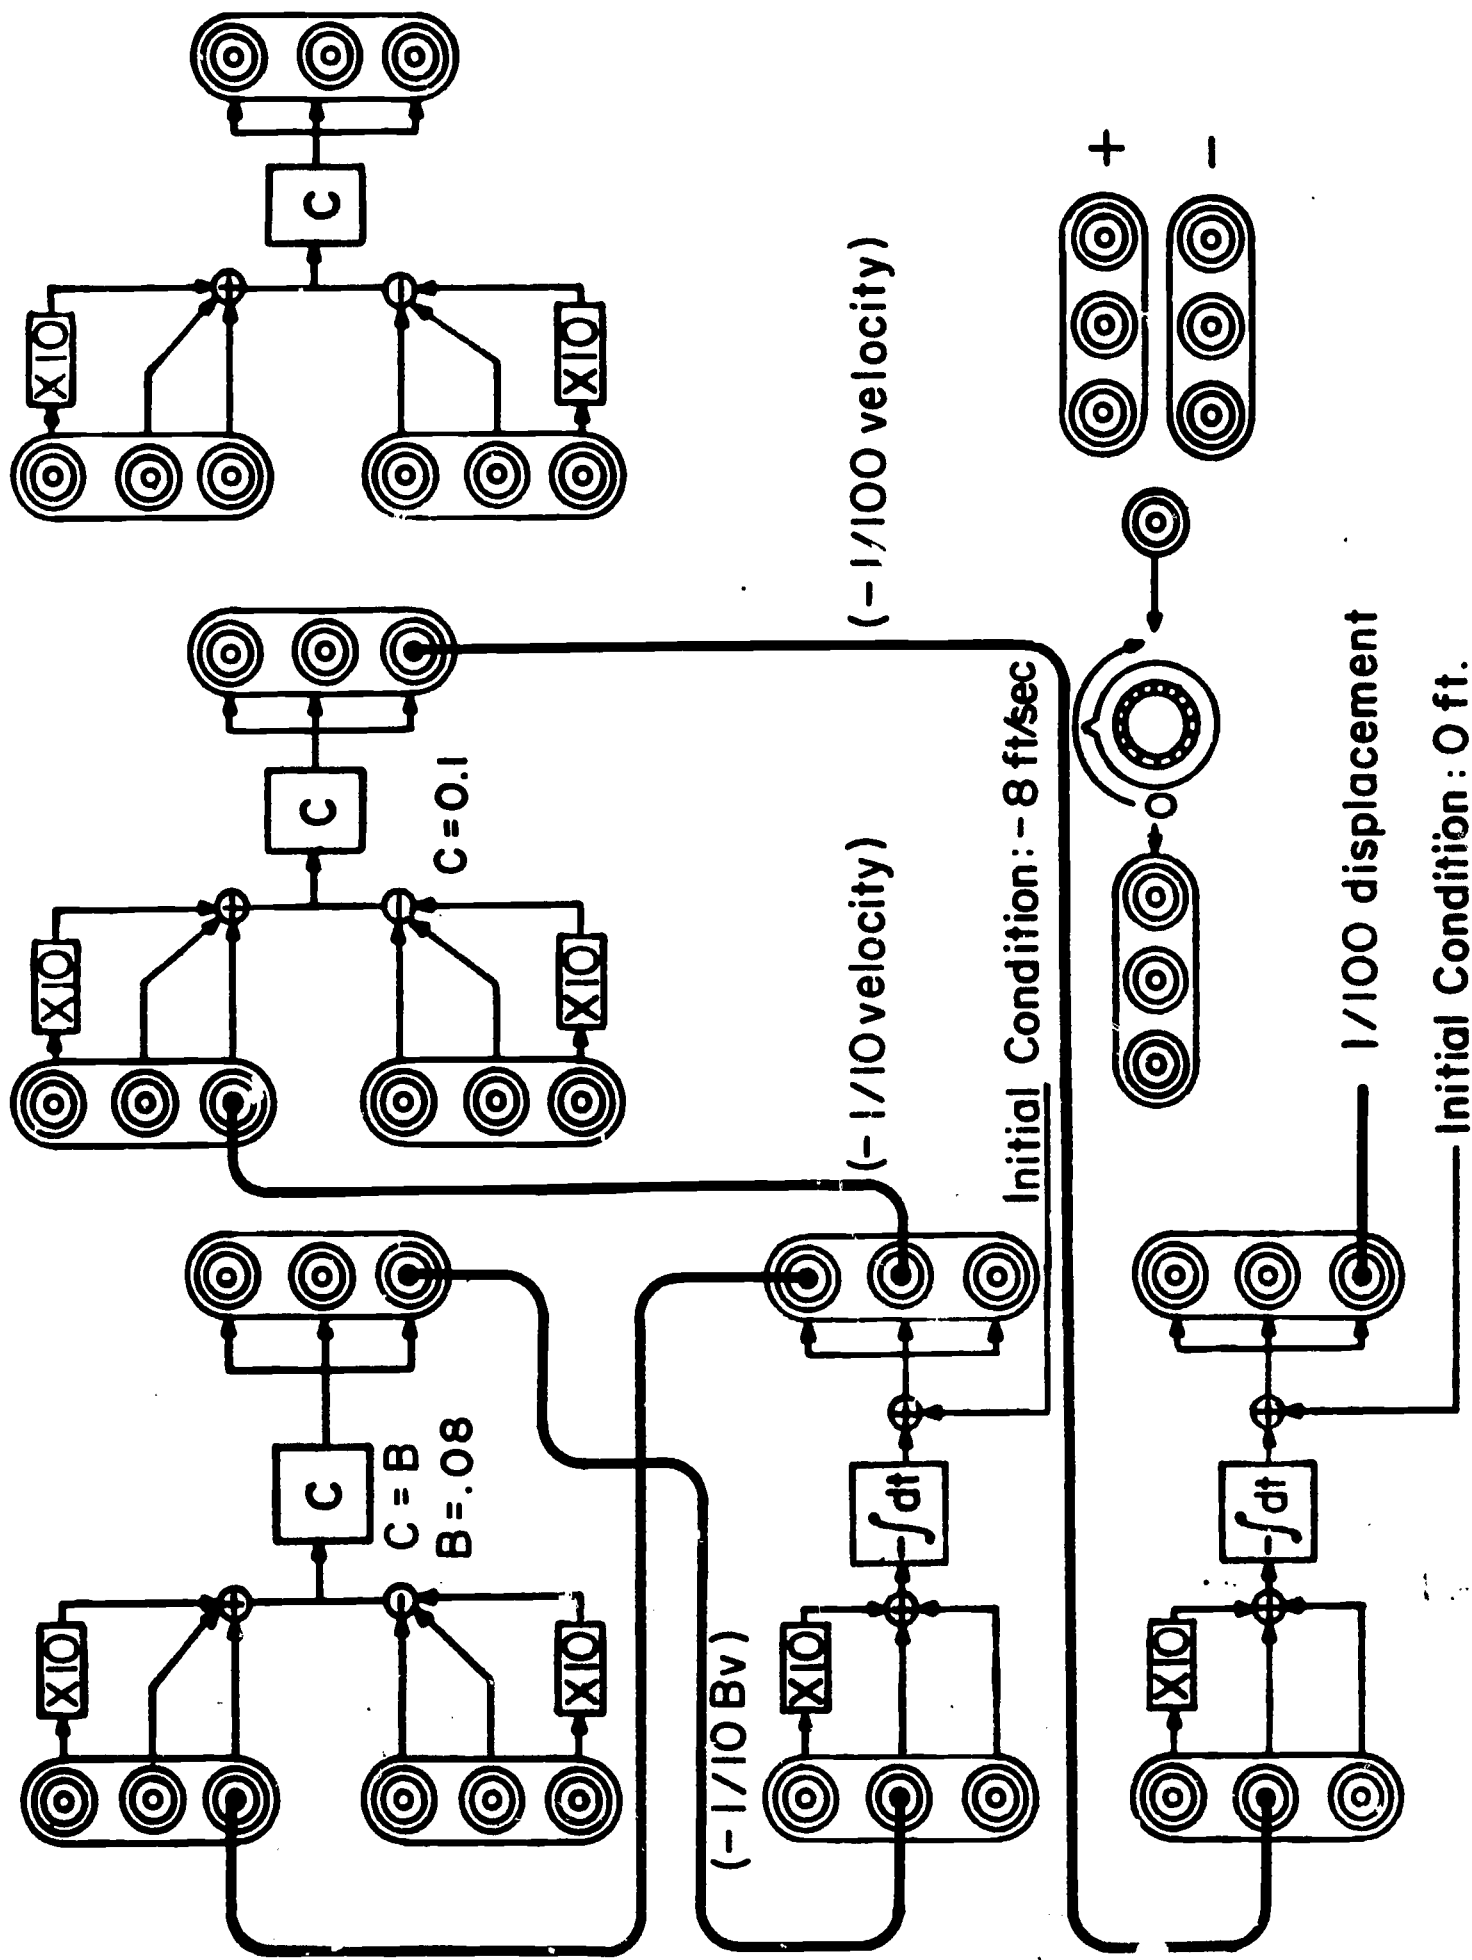

Fig. 3 Final Scaled Simulation of Coasting Vehicle
We still, however, have one more problem. A displacement signal which is scaled down to $1/10$ will still not enable us to read a distance of 900 feet. We must therefore scale down the displacement signal still further. We do this by placing a SCALOR between the two Integrators and set the COEFFICIENT of this SCALOR to 0.1. The input to the second Integrator is now $\frac{1}{10} (-\frac{v}{10})$ or $-v/100$ and the resulting displacement is $x/100$. Now 10 volts on the meter represents 1000 feet. The final simulation is shown in Figure 3.
4. Wire up the ANALOG simulation as shown in Figure 3 and set the initial conditions to their proper values (assume that the INITIAL CONDITION for displacement is zero.) Set the TIMING switch to MAN.